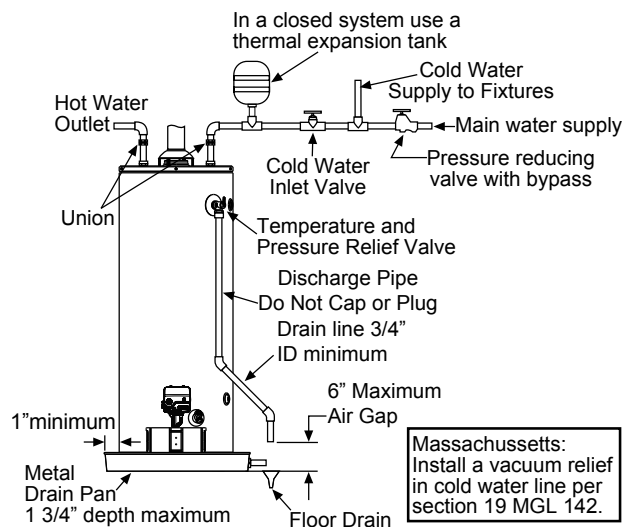

FIGURE 22.
Piping, fittings, and valves should be installed according to the installation drawing (Figure 22). If the indoor installation area is subject to freezing temperatures, the water piping must be protected by insulation.
1. Install the water piping and fittings as shown in Figure 22. Connect the cold water supply (3/4" NPT) to the cold water inlet fitting. Connect the hot water supply (3/4" NPT) to the hot water outlet fitting.